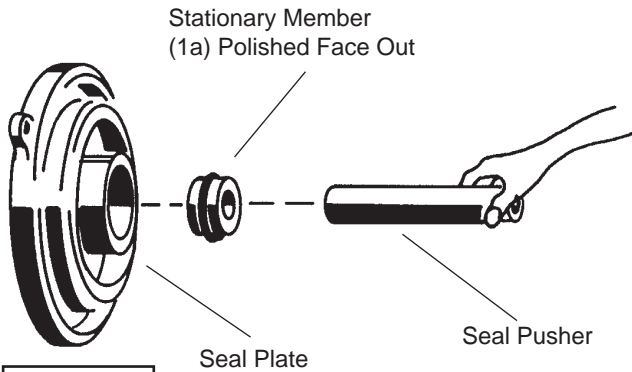

FIGURE 6
Seal - Clean and oil seal cavity in lower end bell (10). Press stationary member (1a) firmly into lower end bell (10), using a seal pusher (see parts list - seal tool kit), nothing but the seal pusher is to come in contact with seal face (see Figure 6). Make sure the stationary member is in straight.